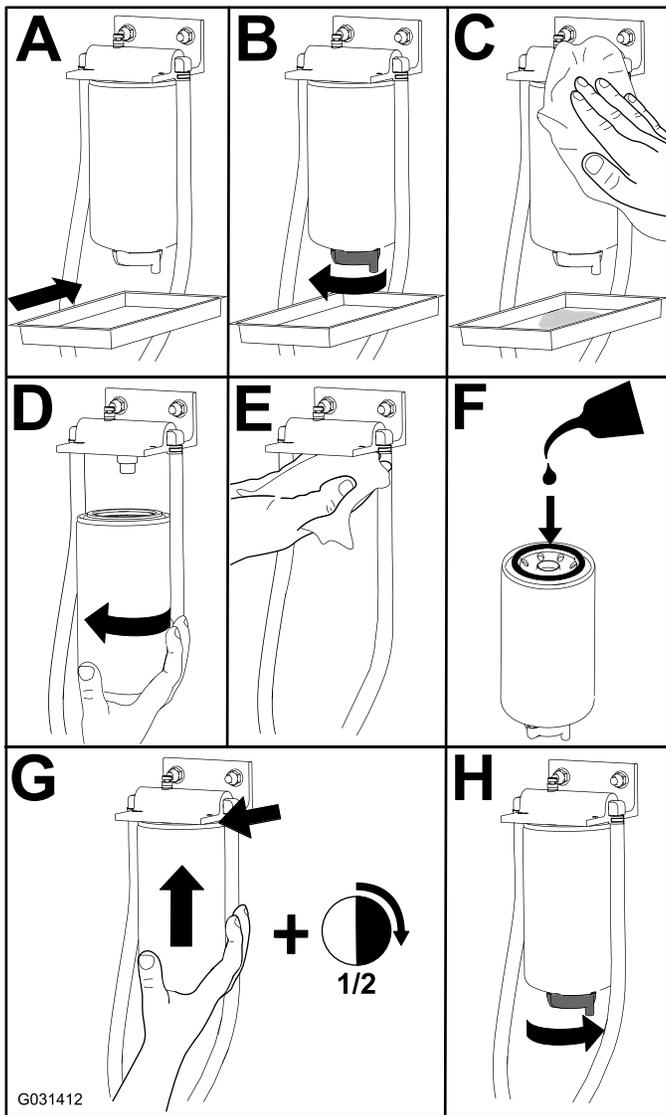

Figure 79
1. Replace the filter as shown in Figure 79.